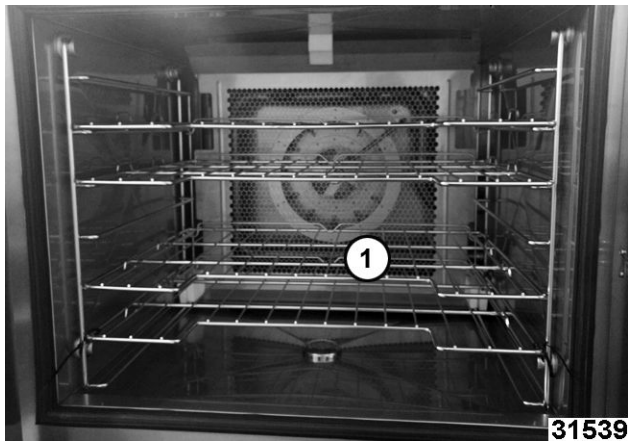

Fig. 82
1. Remove all oven racks (1, Fig. 82).